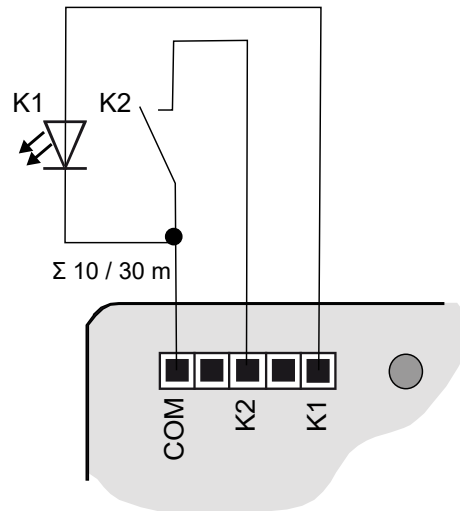
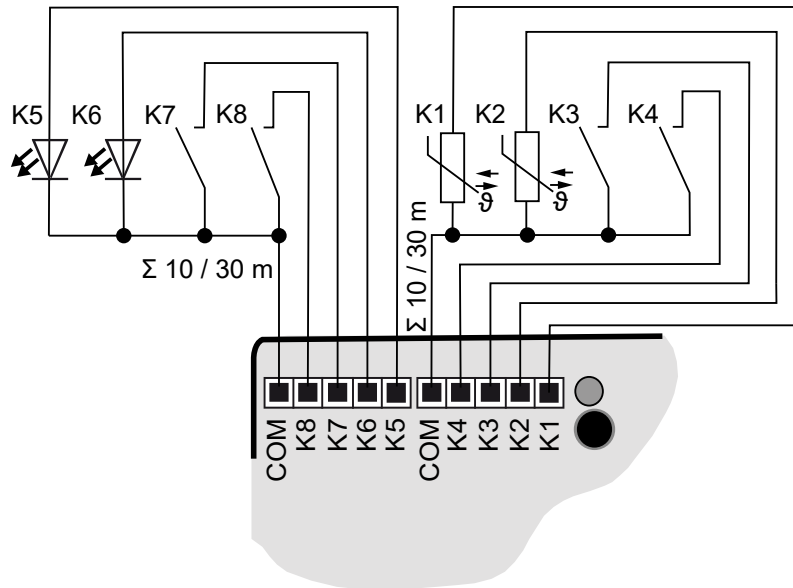

Figure 3: Connection example: push-button interface 2-gang
Figure 5: Connection example: push-button interface 8-gang
- Connect push-buttons, switches, contacts, LED or NTC to enclosed connecting cables (4) according to the connection examples; (see figure 3) to (see figure 5). The connection examples show the use with inputs, outputs and sensors.